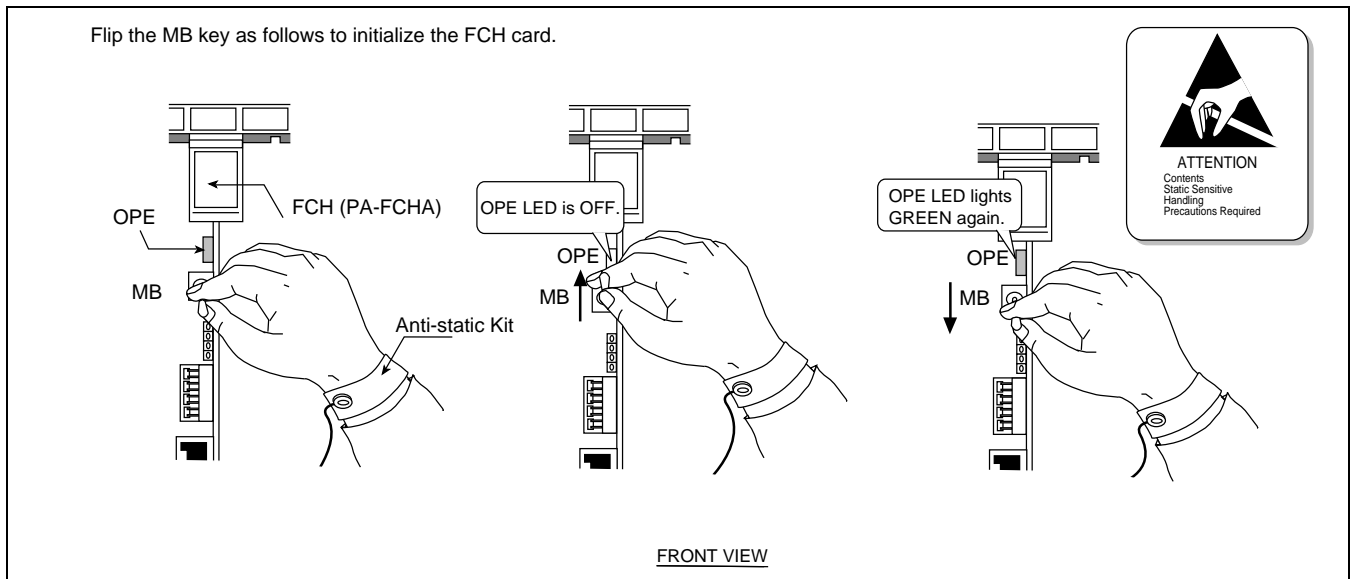

Figure 7-3 How to Initialize the FCH (PA-FCHA) Card
STEP 2: Initialize the indicated FCH (PA-FCHA) card using the MB key. See Figure 7-3 "How to Initialize the FCH (PA-FCHA) card."
STEP 2: Initialize the FCH card using the MB key. See Figure 7-3 “How to Initialize FCH (PA-FCHA) Card.”
STEP 2: Initialize the FCH (PA-FCHA) card using the MB key. See Figure 7-3 “How to Initialize FCH Card.”
See Figure 7-3. When the LED on the FCH card lights green and the related system messages are not displayed anymore, monitor the system for a while. Otherwise, move to STEP 3.
See Figure 7-3. When the LED on the FCH card lights green and the related system messages are not displayed any more, monitor the system for a while. Otherwise, move to STEP 5.